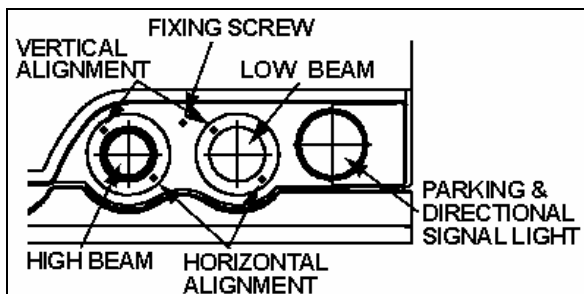

FIGURE 22: HEADLIGHT ASSEMBLY 06546
Headlight aim should be checked after installing a new bulb. Aiming can be performed without opening headlight assembly. Horizontal and vertical aiming of each module is provided by two adjusting screws that pivot the module in the housing for proper alignment (fig. 22). There is no adjustment for focus since the module is set for proper focus during manufacturing assembly.
- Remove the headlight screw fixing the headlight assembly, then tilt headlight assembly down (Fig. 22 and 23).